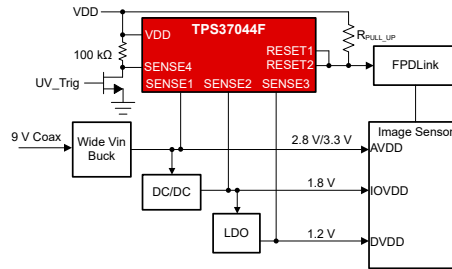

图 8-4. TPS37044F-Q1 Quad-Channel Monitoring With Manual Self-Test Option for Functional Safety
图 8-4 displays a self-test scheme where a manual self-test function can be implemented. Any SENSEx pin can be reserved and used to trigger a fault to be observed at the output, thus pre-checking the TPS3704-Q1 for fault detection. Because the TPS3704-Q1 is functional safety compliant, it helps elevate applications like the automotive ADAS camera achieve ISO 26262 requirements and automotive safety integrity levels. This example uses a TPS37044F-Q1, configured for separate undervoltage and overvoltage (UV/OV) outputs where the SENSE4 thresholds are set at 5.5V for OV and 2V for UV.
图 8-4 shows a self-test scheme where a manual self-test function can be implemented. SENSE4 has an overvoltage (OV) threshold that is set at 5.5V and the undervoltage (UV) threshold set at 2V. SENSE4 can be connected via a 100k  $\Omega$  resistor to VDD. The self-test setup gives the added benefit of a built-in overvoltage detector for the rail powering the TPS37044F-Q1. From a functional safety perspective, a voltage supervisor cannot be considered reliable if the supervisor is operating outside its recommended operated limits.